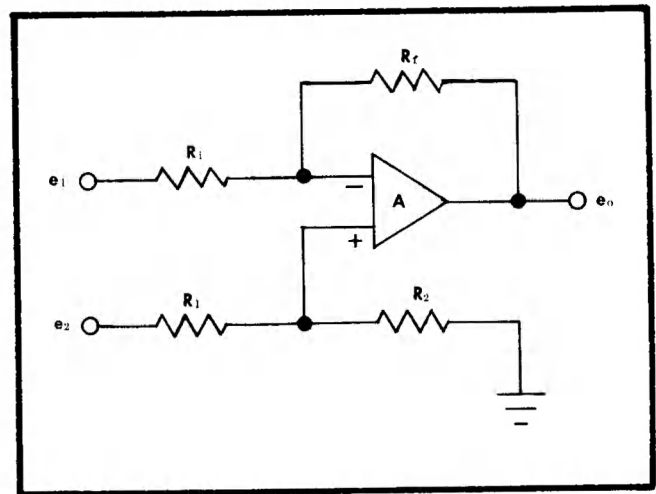
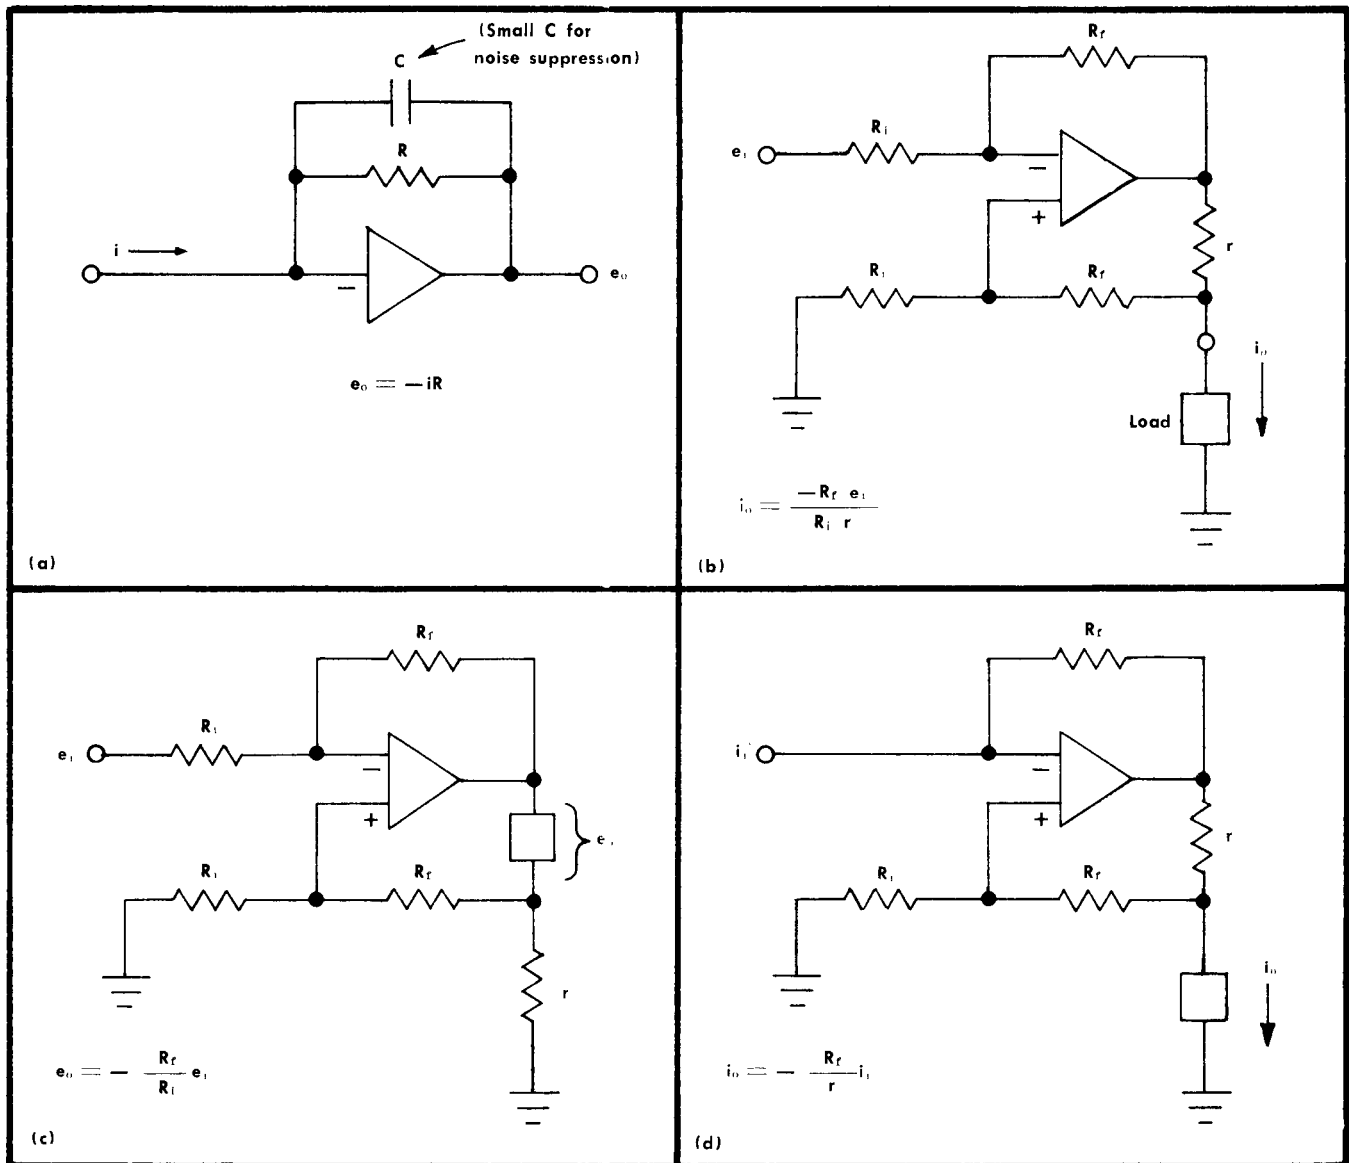

Fig. 3-2. Basic form of operational amplifier with both negative and positive active grids.
Fig. 3-3. Operational amplifiers in Voltage-Current conversions (a) $i_{in}/-e_{out}$; (b) $e_{in}/-i_{out}$; (c) $e_{in}/-e_{out}$; (d) $i_{in}/-i_{out}$.
The most basic form of an operational amplifier, illustrated in Fig. 3-2, is a time insensitive circuit that includes both negative and positive feedback. While many versions of the basic form can be used in time insensitive circuits, the four most common forms are: (1) an input voltage generates an output voltage; (2) an input voltage generates an output current; (3) an input current generates an output voltage; and (4) an input current generates an output current. These four basic Operational Amplifiers are illustrated in Fig. 3-3, and various forms appear in the applications that follow.